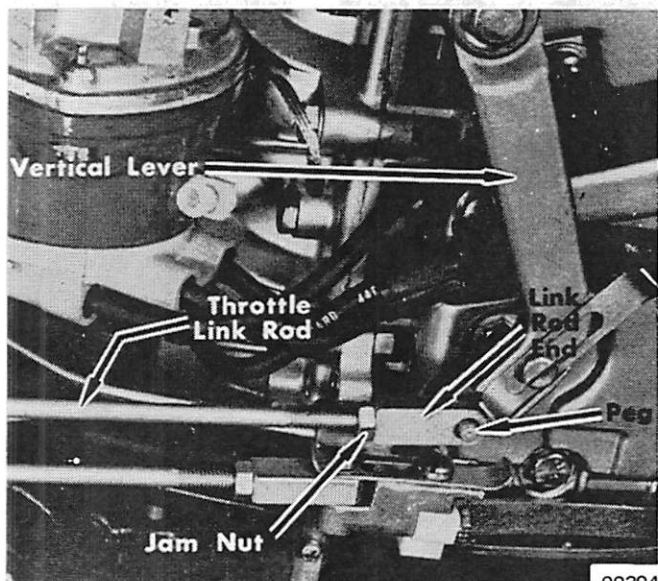

Figure 11. Installing Throttle Link Rod
13. With vertical lever in this position and handle grip positioned as outlined in step No. 11, adjust throttle link rod end as required to place rod end over peg on vertical lever. (Figure 11)